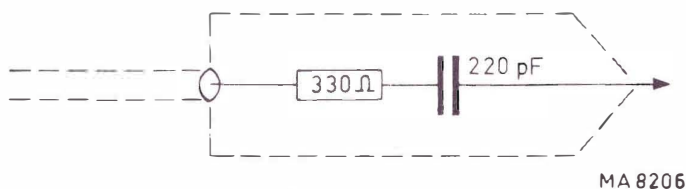

Fig. 8. Dummy aerial
- In the a.m. band the dummy aerial of Fig. 8 may be used to imitate the impedance of an aerial.
- Connect the h.f. output of the generator to the aerial input of the receiver via the dummy aerial of Fig. 8.